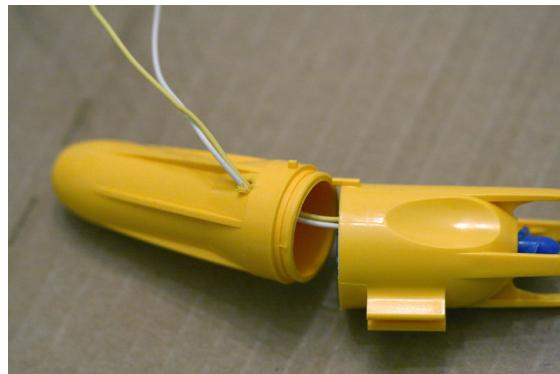

Figure 3-13 Tamiya pod after wiring modifications
- Once the hole is large enough for the wires to fit, thread the wires through one at a time, from the inside of the motor pod. See Figure 3-13.